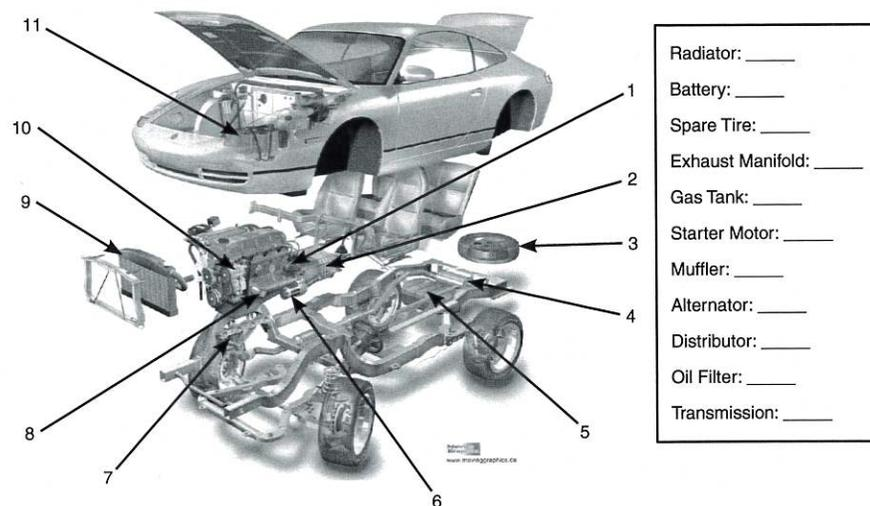

FIGURE 1.1 An exploded view of a modern automobile. Source: © Moving Graphics.
Figure 1.1 shows a generic car with numbered parts. Without cheating from the footnote, can you fill in the correct number corresponding to the parts in each of the blanks.⁷
As visually appealing as Figure 1.1 is, an engineer would consider it inadequate because it fails to express the functional connections among the various parts. Expressing in visual form, the elements and relationships involved in a problem is a crucial tool of engineering, called a **conceptual sketch**. A first step in an engineer's approach to a problem is to draw a conceptual sketch of the problem. Artistic talent is not an issue nor is graphic accuracy. The engineer's conceptual sketch may not look at all like the thing it portrays. Rather, it is intended to (1) help the engineer identify the elements in a problem, (2) see how groups of elements are connected together to form subsystems, and (3) understand how all those subsystems work together to create a working system.